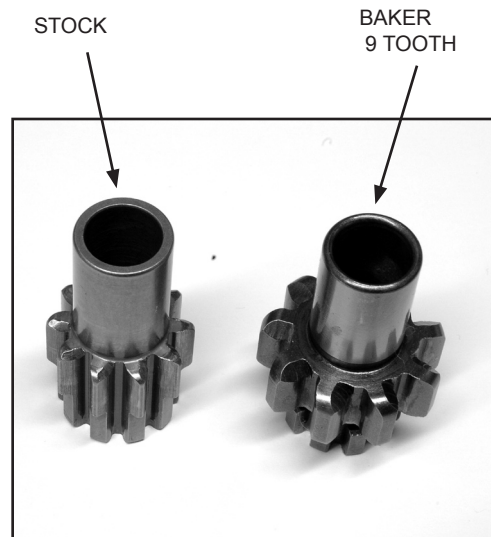

Figure 2.
1. With Clutch assembly and primary components out of the way, remove the factory 10 tooth starter pinion (H-D P/N 31342-94). Replace the factory pinion with BAKER'S 9 tooth starter pinion (P/N SP1000) utilizing the Factory Service Manual for proper torque specifications reusing the Factory Hardware. (Fig 2)